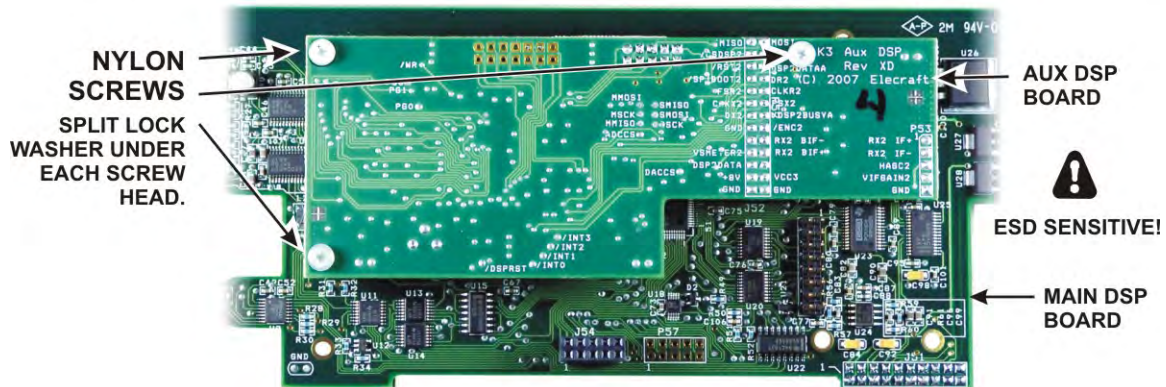

Figure 18. Mating the Main and Auxiliary DSP Boards.
□ Plug the aux DSP board into the main DSP board by mating P52 and P53 on the aux DSP board (at the narrow end) with J52 and J53 on the main DSP board. When seated, the connectors should be fully engaged with the aux DSP board resting against the standoffs with the holes in the board aligned for the screws (See Figure 18). Note that a two-row 10-pin connector at the top of the aux DSP board does not mate with anything on the main DSP board. That is normal. Attach the boards with three 4-40 1/4" (6.4 mm) *nylon* screws or the nylon screws you trimmed to length earlier (see Figure 13). Place a split lock washer under each screw head. Do not place washers between the standoff and the pc board. ***Be careful tightening the nylon screws. Their threads strip easily!***